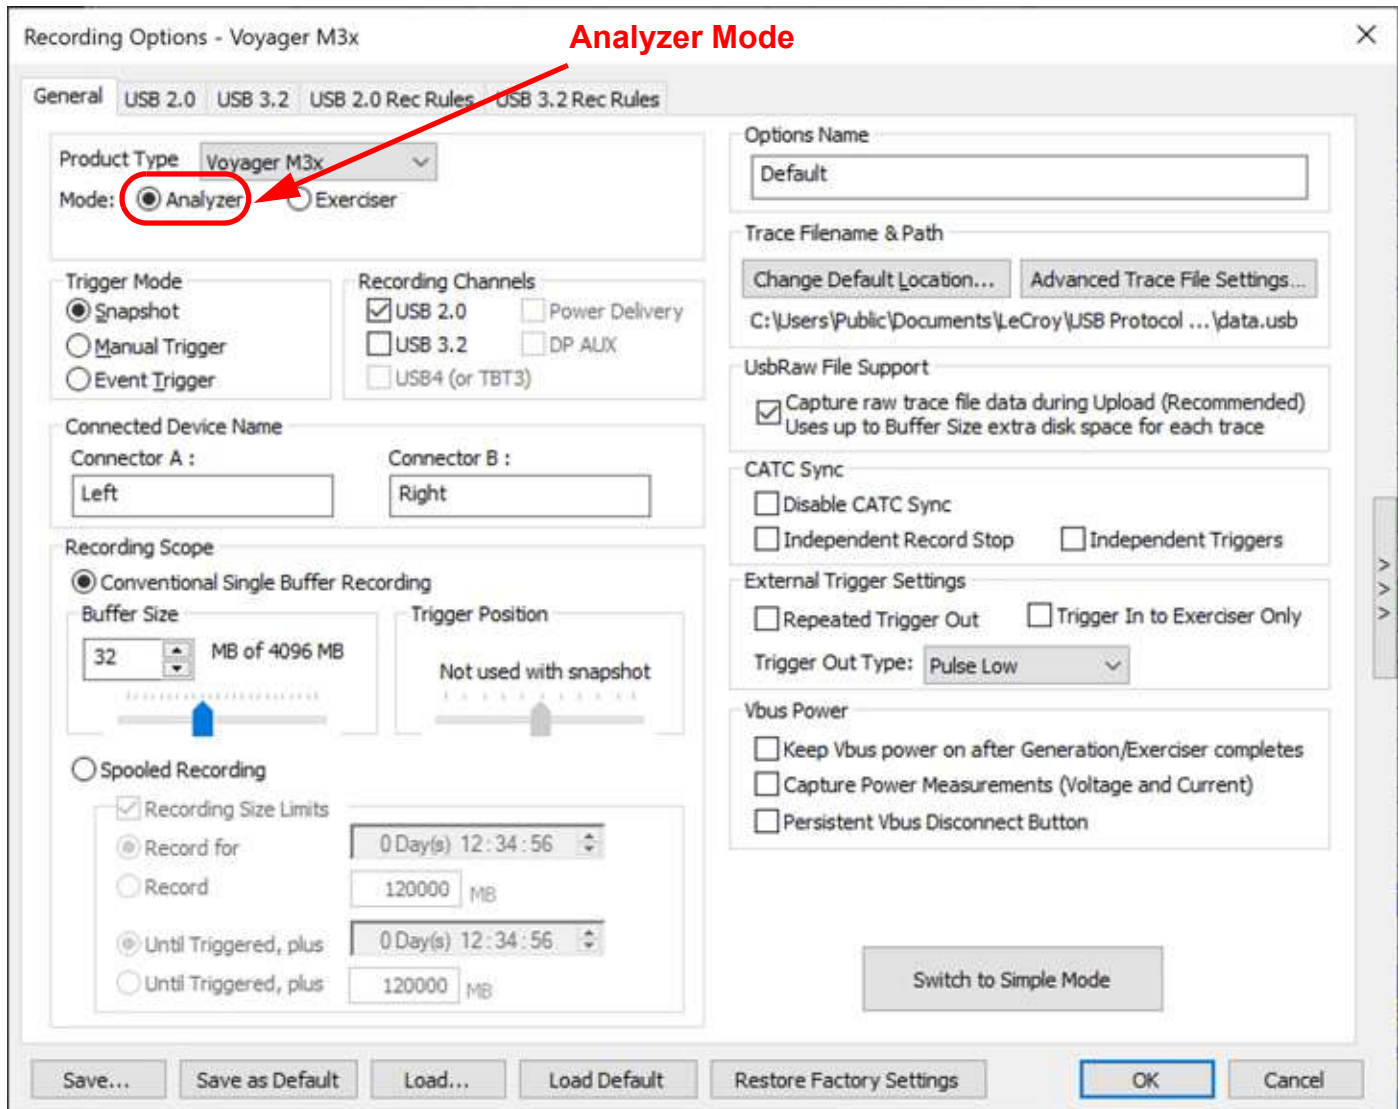

Figure 5.19: Voyager M3x: Recording Options General Tab in Advanced Mode
In Advanced Mode, the Recording Options dialog box for the Voyager M3x (Analyzer Mode) is shown below with USB2.0, USB3.2, USB 2.0 Rec Rules: CHO and USB3.2 (SS) Rec Rules see Figure 5.19.